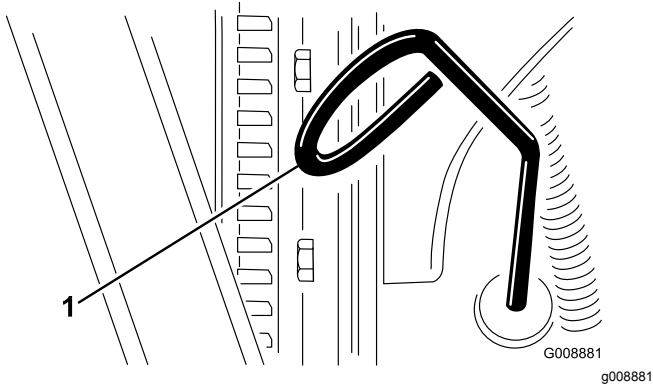

Figure 42
2. Remove the dipstick (Figure 42) and wipe it with a clean rag. Insert the dipstick into the tube and make sure that it is seated fully. Remove the dipstick and check the level-of-the-oil.